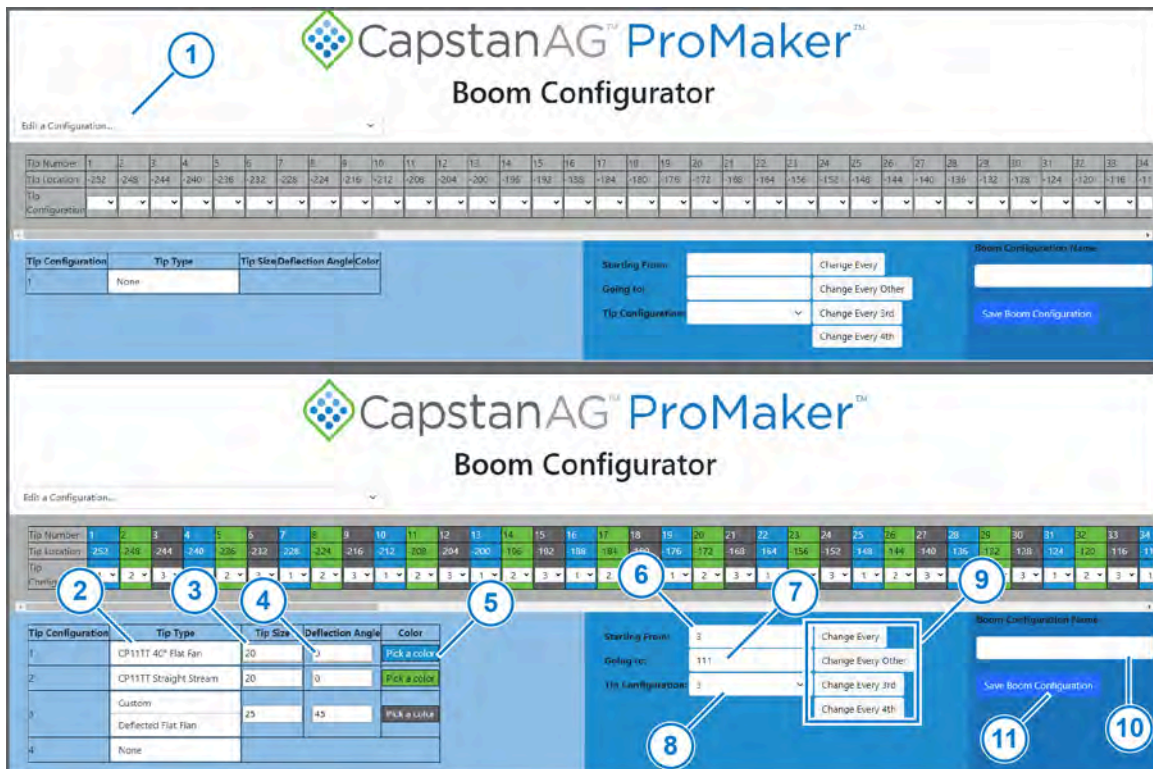

Figure 13: Boom Configurator
3. Select the **Edit a Configuration** box (Figure 13, Item 1).
5. Click on the box (Figure 13, Item 2) below **Tip Type**.
7. Click on the box (Figure 13, Item 3) below **Tip Size**.
9. Click on the box (Figure 13, Item 4) below **Deflection Angle**.
11. If desired, click on **Pick a color** (Figure 13, Item 5).
- a) Click in the box (Figure 13, Item 6) next to **Starting From:** and enter the starting tip number.
- b) Click in the box (Figure 13, Item 7) next to **Going to:** and enter the ending tip number.
- c) Click in the box (Figure 13, Item 8) next to **Tip Configuration:** and enter the correct tip configuration list on the left side of the page.
- d) Select which tips to change from the list (Figure 13, Item 9):
15. Click on the **Boom Configuration Name** box (Figure 13, Item 10) and enter the desired name of the configuration.
16. Click **Save Boom Configuration** (Figure 13, Item 11).